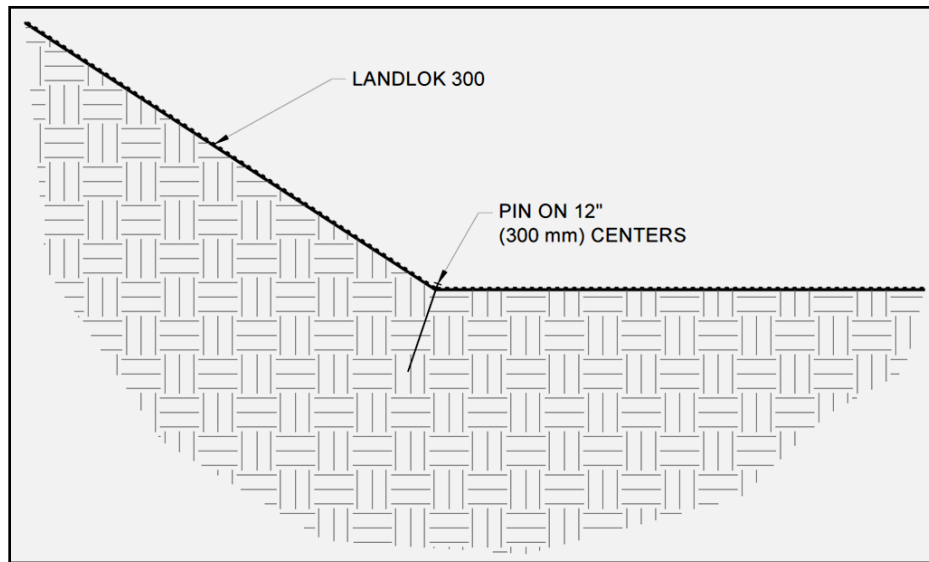

Figure 15: Break in Slope Interface
- At the break in slope interface towards the channel bed, it is suggested that Pins be installed on 12 in (300 mm) centers (Figure 15).